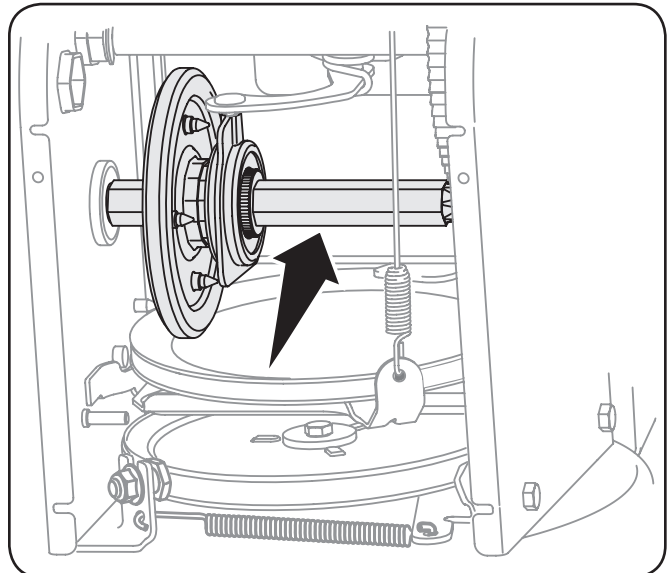

Figure 6-6
4. Apply a light coating of engine oil (or 3-in-1 oil) to the hex shaft. See Figure 6-6.